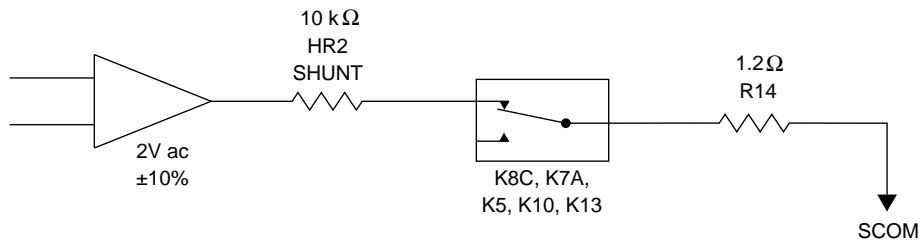

Figure 5-10. Verifying the 22 mA Range of the 22 mA/220 mA Amp Circuit
6. Check the 22 mA Range of the 22 mA/220 mA AMP. Set the 5700A to 20 mA, standby. Set the external ac reference to 6.3V ($\pm 0.1V$) at 1 kHz. Using a DMM measure the ac voltage at the collector of Q6 and verify it is 2.0V ac $\pm 10\%$. If a failure is detected, first verify the 100 Ω shunt on HR2 is correct and is connected to SCOM through relays in K8C, K7A, K5D, K10, K13, and 1.2 Ω load resistor R14, as shown in Figure 5-10. If the shunt and output switching are correct, check Q6-Q13, K4, and the associated components in the 22 mA/220 mA AMP circuit.